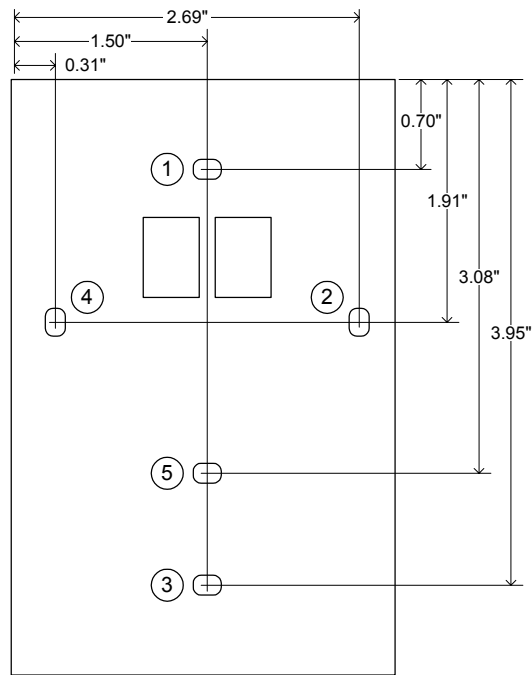

Figure 2 - Subbase Mounting Holes & Dimensions
- (1) Disconnect Unit power.
- (2) Unsnap the thermostat faceplate from the subbase. Remove the thermostat faceplate by placing the thumb in the center of the thermostat and pulling on the top edge of the plate.
- (3) Unscrew the two small screws that secure the thermostat to the subbase.
- (4) Disconnect the yellow S-LK wires from the S-LK/COM terminals of the unit controller and from terminals 1 and 2 of the subbase.
- (5) Remove the two screws that hold the subbase to the controller mounting plate.
- (6) Move the subbase to the mounting location and feed the sensor link (S-LK) wires through the back of the subbase.
- (7) Mount the subbase. The wiring terminals should be at the top end of the subbase. For direct wall-mount, 2x4 box mount, and surface mount boxes, use mounting holes 1 and 3. For 1/4 DIN boxes, uses mounting holes 1 and 2. See Figure 2. Use the appropriate flathead screws, such as 6-32 x 5/8", to attach the subbase to the box or wall. When attaching to directly to drywall, use anchors as necessary.
- (8) The sensor link wires (S-LK or U-link) connect to subbase terminals 1 and 2; these wires are not polarity sensitive. Connect the S-LK wires to the S-LK/COM terminals of the controller.
- (9) Push the excess wire back through the subbase and insulate the opening to minimize air drafts from an unconditioned space.
- (10) Hold the t'stat with the display out and oriented towards the top of the t'stat. Set the t'stat circuit board so that the bottom edge is captured by the mounting hooks near the bottom of the subbase.
- (11) Secure the t'stat to the subbase by tightening the two small screws near the top, outer edge of the t'stat.
- (12) Snap the faceplate back onto the t'stat. Snap in the bottom edge first and then the top edge.
- (13) If using the t'stat to detect space temperature, disconnect the unit mounted room air temperature sensor (RAT) from the controller (terminals UI1 and COM).
- (14) Apply unit power and verify t'stat operation.